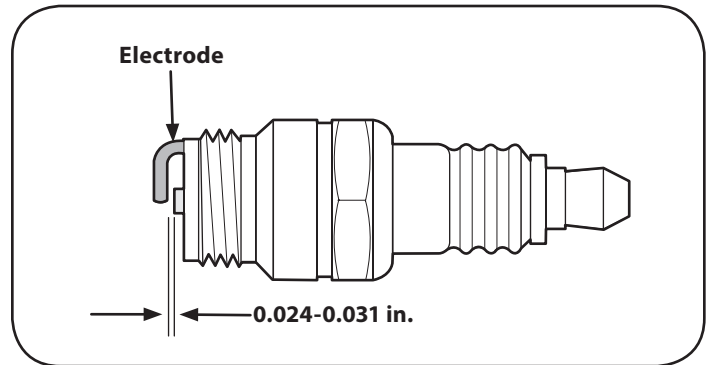

Figure 20
3. Measure the plug gap with a feeler gauge. Correct as necessary by bending side electrode. See Figure 20. The gap should be set to 0.024-0.031 in.